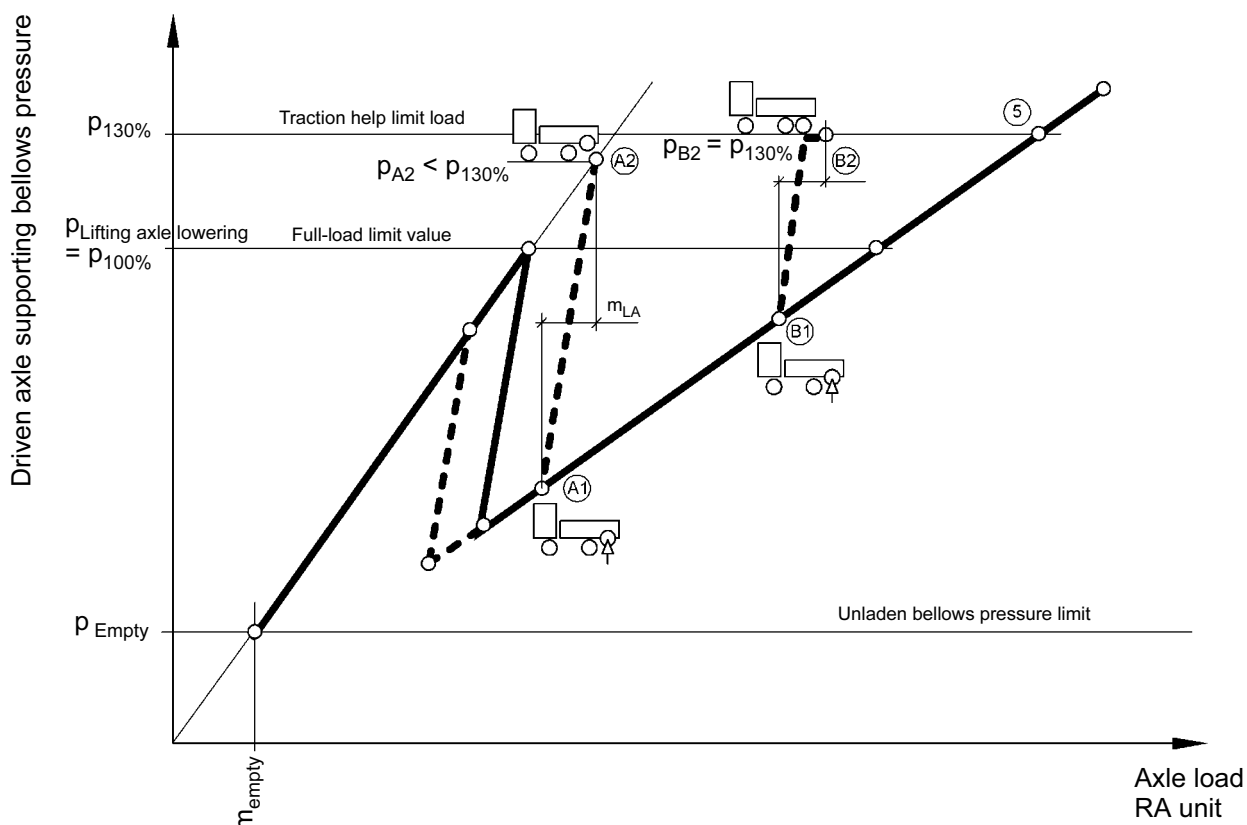

Fig. 12 Traction help function diagram in vehicles with pressure equalising control
Generally, the traction help facility can be used only if a supporting bellows pressure ( $\downarrow$  Fig. 12) between (3a) and (6) is determined. That means that the lifting axle must be on the ground. The description follows the requirements of EC Directive 97/27/EC (EC 97/27).
Fig. 12 shows two examples, starting with (A1) and (B1), to illustrate the effect of traction help after activation of the different loading conditions.